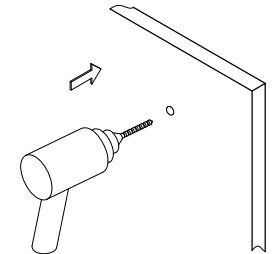

Fig. 3
3. For wall anchors, drill a 3/16" hole and insert the anchor (Fig 3 & 4).